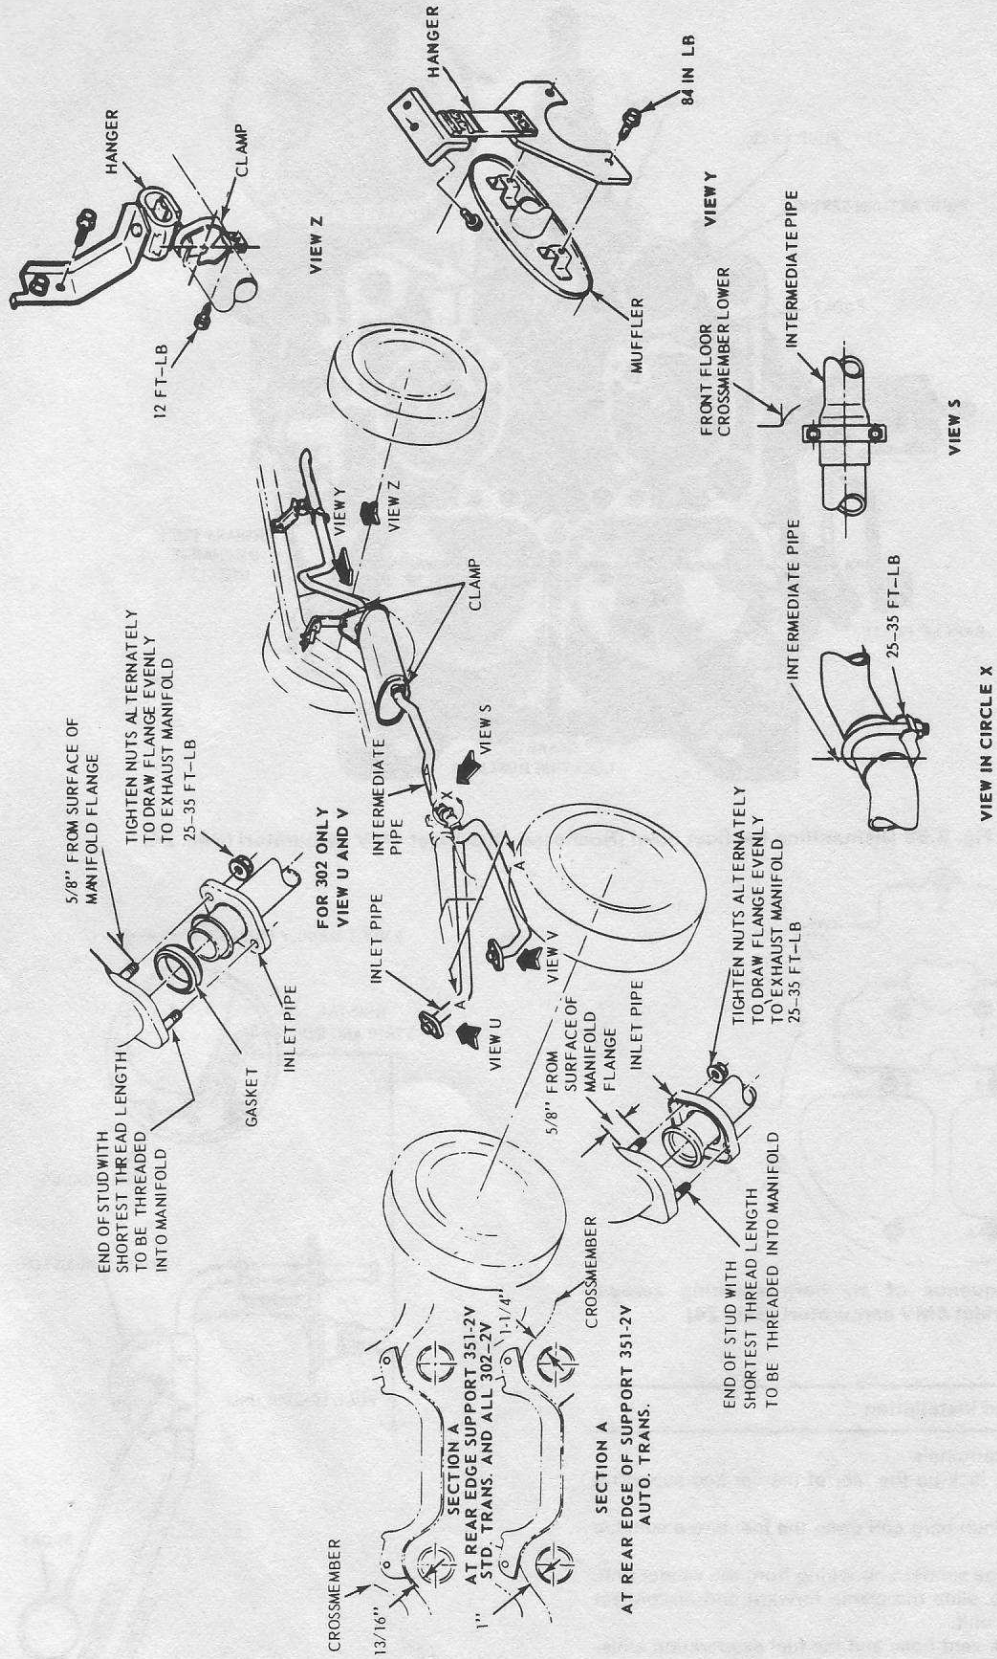

Fig. 3.61 Single exhaust system (Sec. 28)
*Single and dual exhaust systems are used on the different models. The single system can consist of a single muffler exhaust system with or without a resonator, or a dual muffler exhaust system, without resonator. The dual exhaust system has two separate exhaust systems without resonators (Figs. 3.61 and 3.62).*